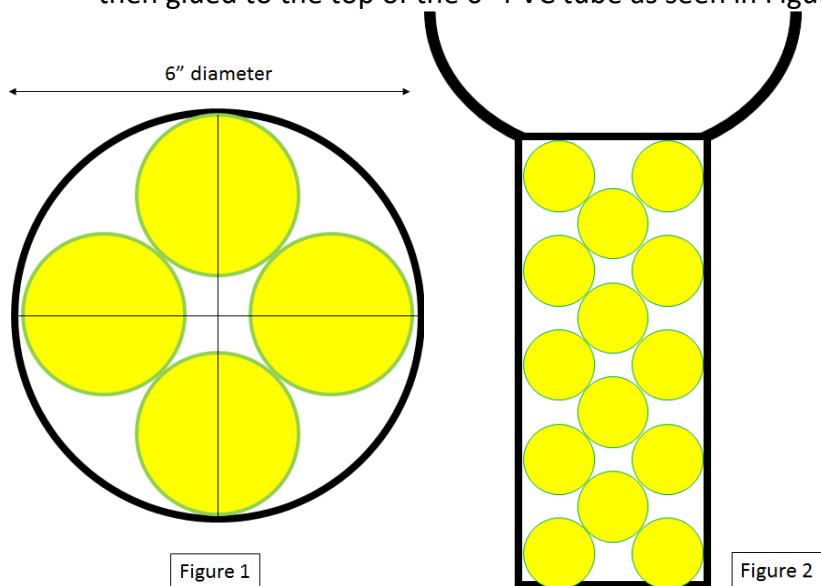

Figure 1
- a. As seen in Figure 1 below four tennis balls are inserted into the bottom of a 6" in diameter, 2 foot long section of PVC tubing (clear is best).